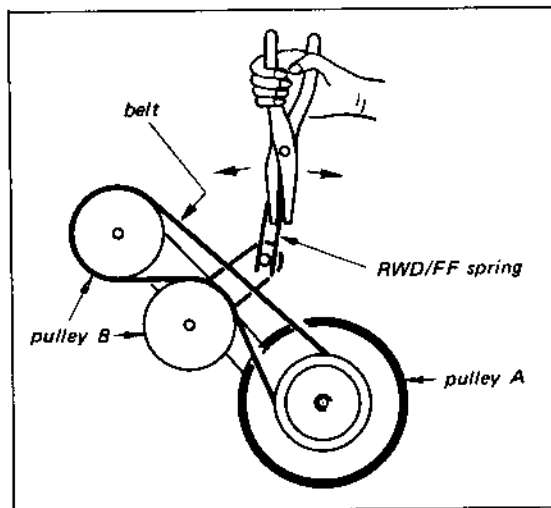

Fig. 3-3 Spring adjustment for pulley "C" clearance
2. The clearance can be changed by bending the Rewind/Fast Forward spring in the back of the chassis with pliers as shown in Fig. 3-3.